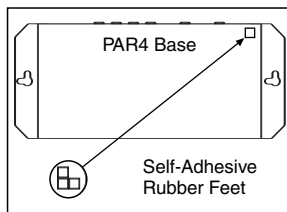

Figure 2: Table-top placement
1. Table-top (on the floor or shelf behind the equipment) (Figure 2).